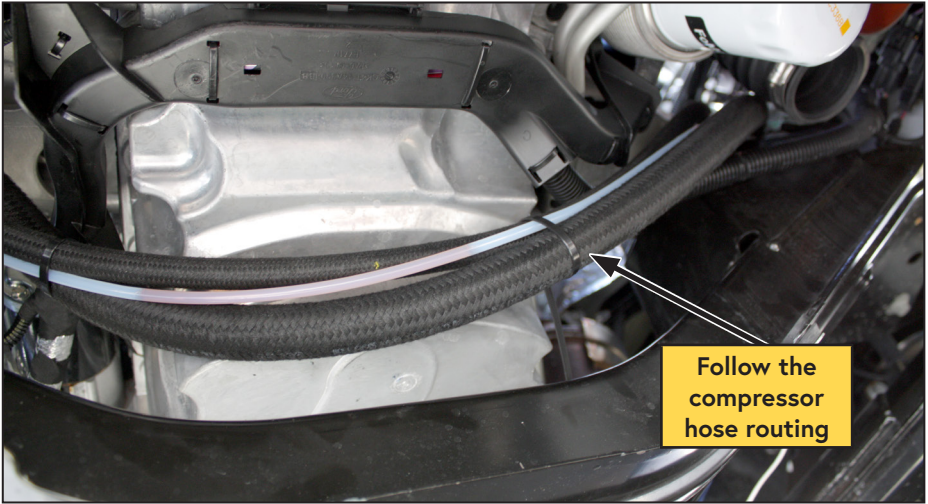

Figure 70 — Route hoses under the oil pan
- Follow the routing path under the engine oil pan and over the front subframe crossmember, towards the passenger side of the vehicle (Figure 70).